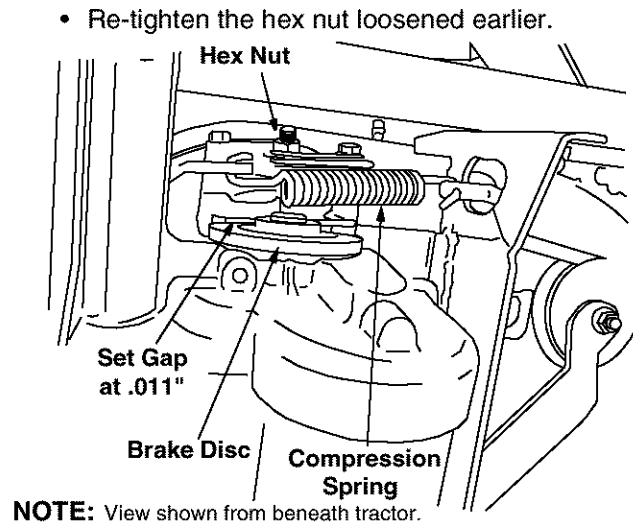

Figure 14
- Loosen, but do NOT remove the hex nut found on the right side of the brake assembly. See Figure 14.